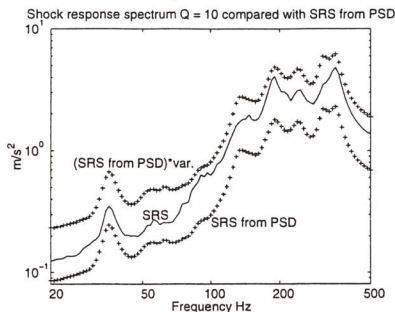

Figure 7. SRS computed from signal and from PSD.
In figure 7, the SRS calculated directly from the signal is compared with the SRS calculated from the PSD. This latter function is also shown multiplied with the variability from (2). We